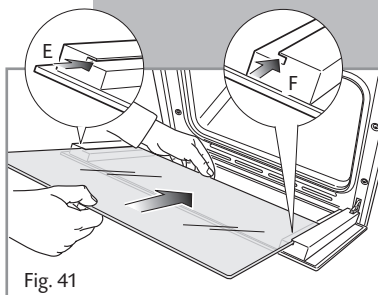
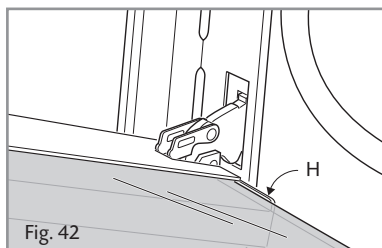

Fig. 41
Fig. 42
- Insert the pane in the left **E** and right **F** slide guides (fig. 41), and gently slide it to the retainers **H** (fig. 42).